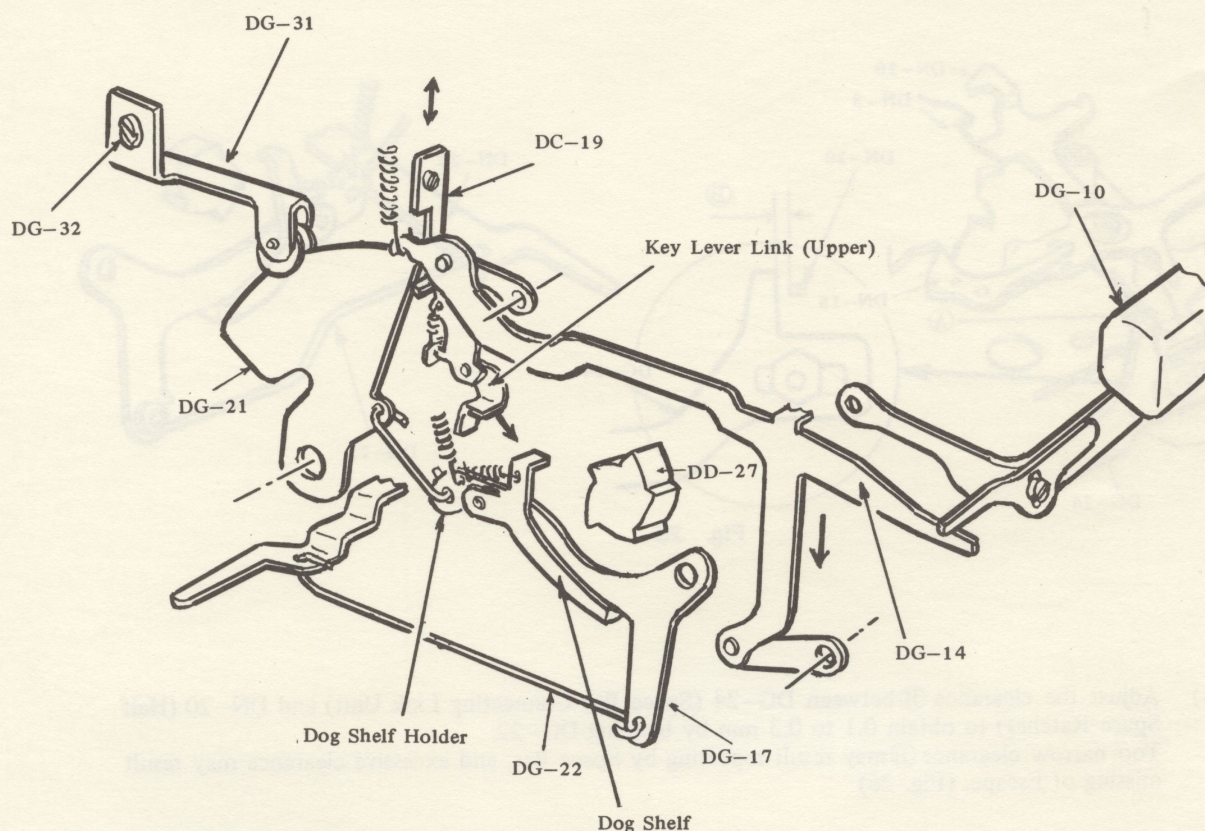

Fig. 28
When DB-103 (Space Repeat Key) is depressed, DG-14 (Space Key Lever Unit) is pushed and Escapement of carriage is accomplished just like as the case of Space Bar Mechanism, however, as DG-14 is depressed deeper than the case of DG-10 (Space Bar), by specially arranged DC-19 (Space Repeat Key Lever Stopper), Dog Shelf is always pushed out to the place where it is engaged with DD-27 (Snatch Roll), and Escapement is repeated. (Fig. 28)
- (1) Adjust depressing distance of DG-14 (Space Key Lever Unit) by shifting the place of DC-19 (Space Repeat Key Lever Stopper) up and down. (Fig. 28)
- (2) Adjust spring pressure of DG-31 (Space Bell Crank Spring) by loosening DG-32 (Screw) and changing the position of DG-31. Excessively strong spring pressure may result worse returning function of DG-17 (Dog Shelf Holder), consequently it should be confirmed that DG-17 is positively returned to the original position after DG-33 (Half Space Key) is depressed and let off. (Fig. 28)